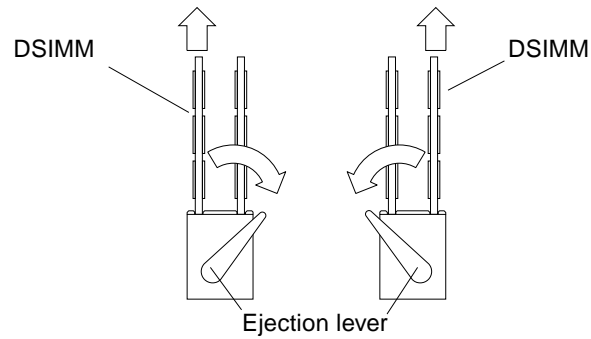

Figure 2-10 DSIMM Ejection Levers
2. Push the ejection lever away from the DSIMM (Figure 2-10).